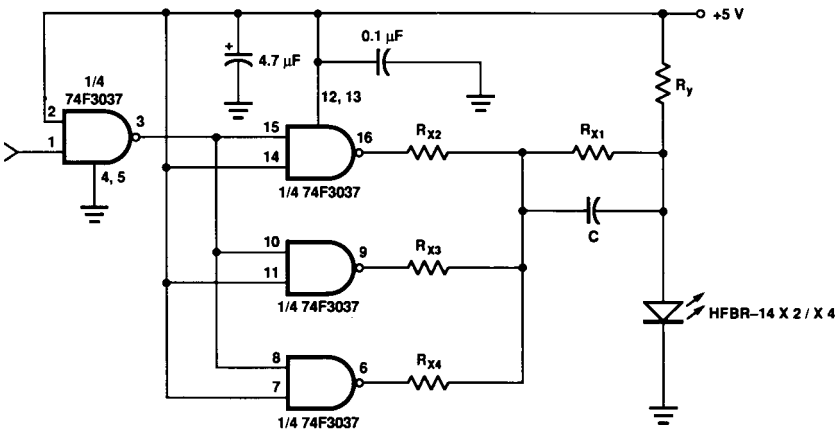

Figure 11. Recommended Drive Circuit.
- Pre-bias is recommended if signal rate  $> 10 \text{ MBd}$ , see recommended drive circuit in Figure 11.
Figure 11 uses frequency compensation to reduce the typical rise/fall times of the LED and a small pre-bias voltage to minimize propagation delay differences that cause pulse-width distortion. The circuit will typically produce rise/fall times of 3 ns, and a total jitter including pulse-width distortion of less than 1 ns. This circuit is recommended for applications requiring low edge jitter